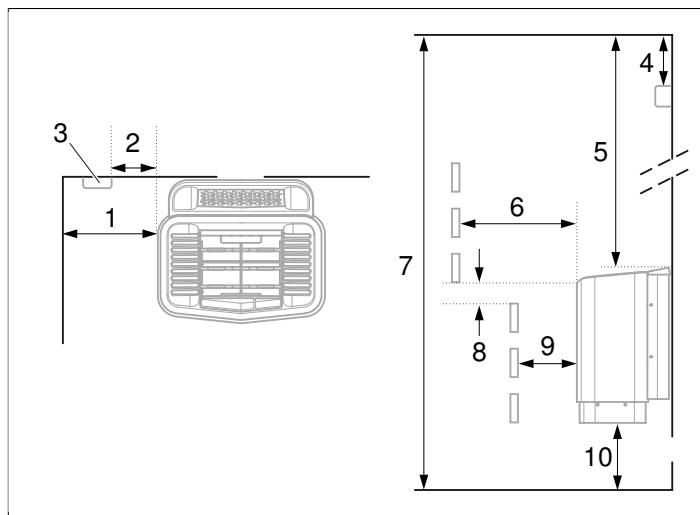
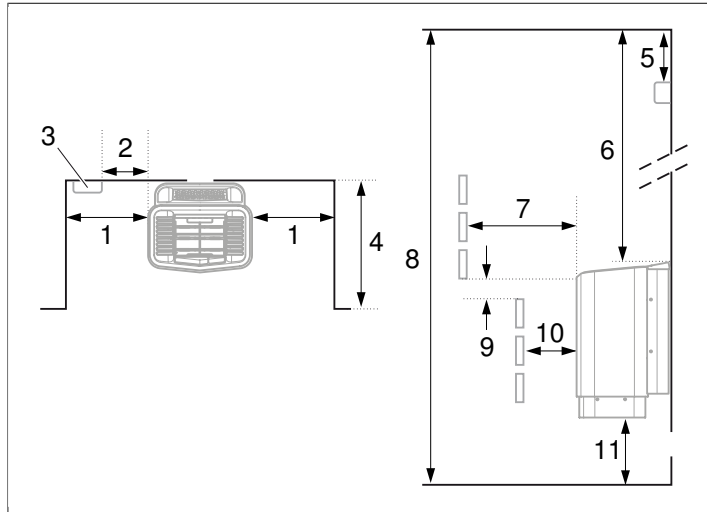

**Figure 3:** Positioning the heater - normal installation
**Figure 5:** Positioning the heater - recess installation
- Plan where to position the sensor (see **Figure 3**, Page 2 and **Figure 5**, Page 3).
- on the same wall as the door (or the side wall if very close to the door wall). The heater can also be positioned in a recess (see **Figure 5**, Page 3).
- at a safe distance from the floor, side walls and interior fittings (see **Figure 3**, Page 2).
Position the sensor according to the diagram (see **Figure 3**, Page 2).
1. Position the heater at a safe distance from the floor, side walls and interior fittings (see **Figure 5**, Page 3).
2. Position the sensor according to the diagram (see **Figure 5**, Page 3).